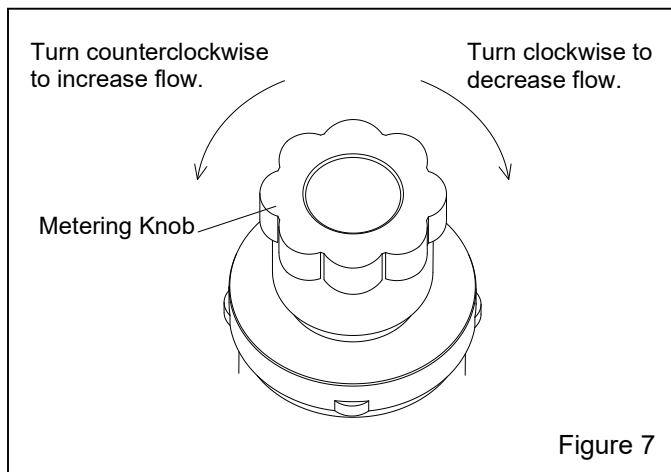

Figure 7
3.0 ADJUST ABRASIVE FLOW – Figure 7
3.2 The valve is closed when the knob is turned fully clockwise. Increase abrasive flow by turning the knob counterclockwise and decrease abrasive flow by turning the knob clockwise, as shown in Figure 7. Begin with the knob set 2 turns from fully closed. Increase flow by turning the knob no more than 1/4 turn counterclockwise. Check flow before readjusting. Continue adjusting as described until the correct flow is attained.